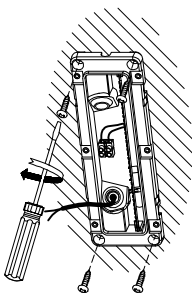

Fig. 4
- Terminate the wiring into the terminal block, ensuring correct polarity Fig. 4.